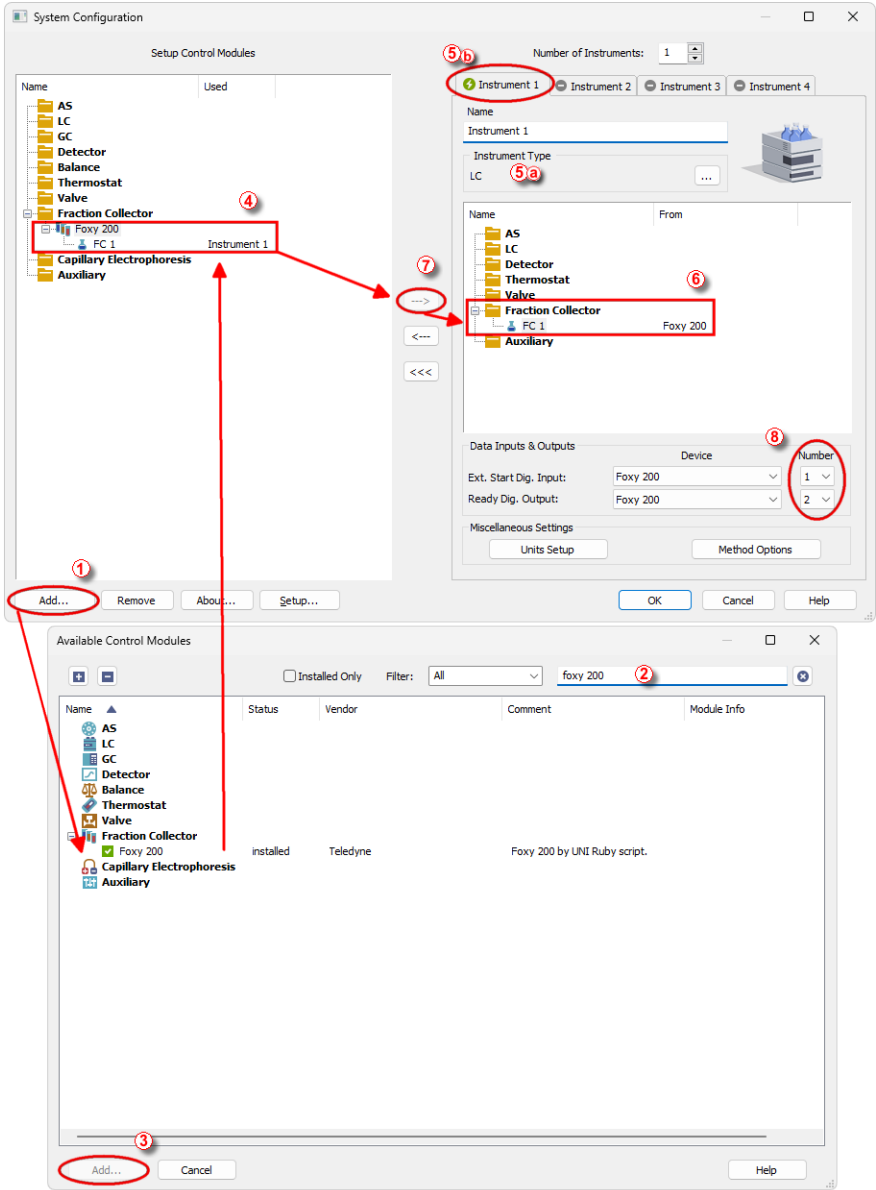

Fig. 3: How to Add Foxy 200 Control Module
- Press the **Add** button (① on 3.2 on pg. 5.) to invoke the *Available Control Modules* dialog.
- You can specify the search filter (②) to simplify the finding of the driver.
- Select the correct item and press the **Add** (③ on Fig. 3 on pg. 5.) button. Each device with already created profile should have its own item named accordingly in the *Available Control Modules* dialog.